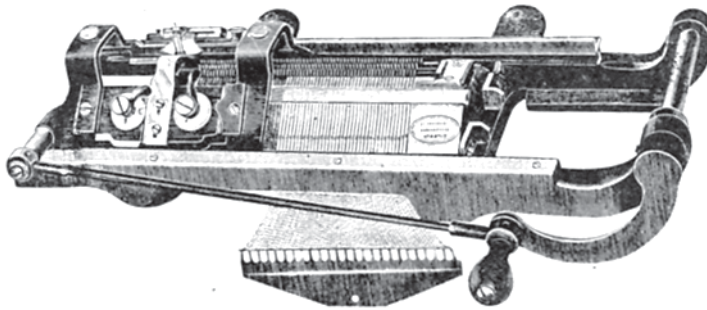

Fig. 99. Short Carriage Machine.
**Construction.** As appears by examining the cut of the *short carriage machine*, Fig. 99, the bed frame consists of two parallel ways to which, at the desired angle and at the proper distance apart, is fitted the needle bed; at the right end of the frame are projections forming the bearings for the crank shaft. A connecting rod connects the crank with a projection of the carriage; by these means the carriage is propelled back and forth across the needle bed. On the back of the frame are projections for securing it to the bench or table. The term *bed* includes the two plates, (front and back) and the frame to which they are attached.